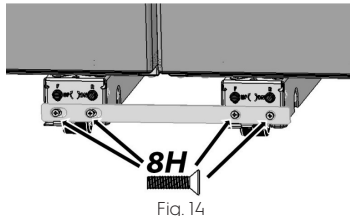

Fig. 14
15. Having the refrigerator/freezer standing side by side $\frac{1}{2}$ " apart, fasten a 9H bracket to the front of the Levelers (Fig. 14), keeping the left-side 8H screws loose.
- c. Fasten the four 8H screws (Fig. 14 and 15) through 2 front and back 9H brackets. You may need several adjustments for the center trim to be consistently flush and centered to the units.